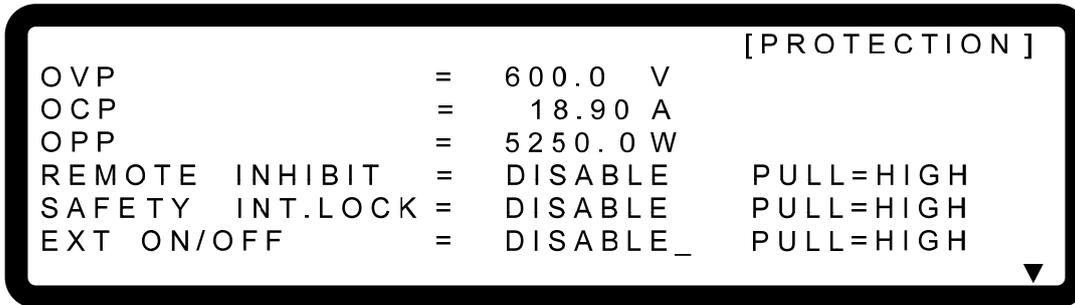

Figure 3-76
- Use “”, “” keys to move the cursor to the column to be set as Figure 3-76 shows.